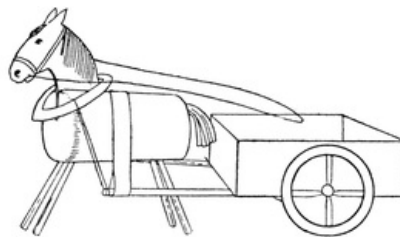

FIG. 128
**Horse and Cart.** Gum wheels (size of penny) and matches for shafts on the match-box as in Fig. 128. File or sand-paper a cork quite smooth and round the edges. Cut a horse's head out of cardboard and colour it, make a slit with a knife in the widest part of the cork, insert the horse's head, insert the tail and four matches for legs. Gum a piece of paper on the horse's back, turn up and gum the ends of a paper strip to form loops for shafts to go through. These shafts can be gummed into the loops or fastened by thread or paper to a collar round the horse's neck. (This latter way is difficult for little children.) The collar is cut out of paper. A piece of thread can be put through a hole in the horse's mouth for reins. Paper seats may be added to the cart.